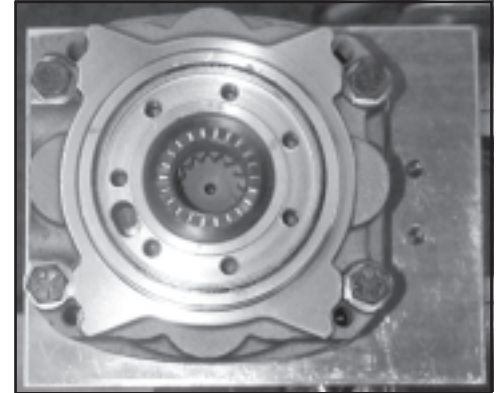

Figure A18
14. Invert brake assembly so that the motor is facing up. Keep PSI on brake assembly so rotor set can be aligned easily. SEE FIGURE A18